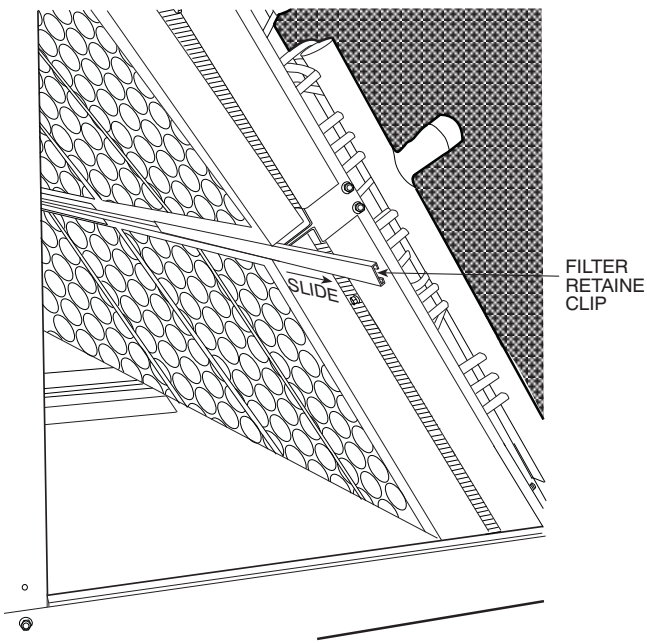

Fig. 25 — Remove Filter Retainer Clip
2. Remove the filter retainer clip (see Fig. 25).